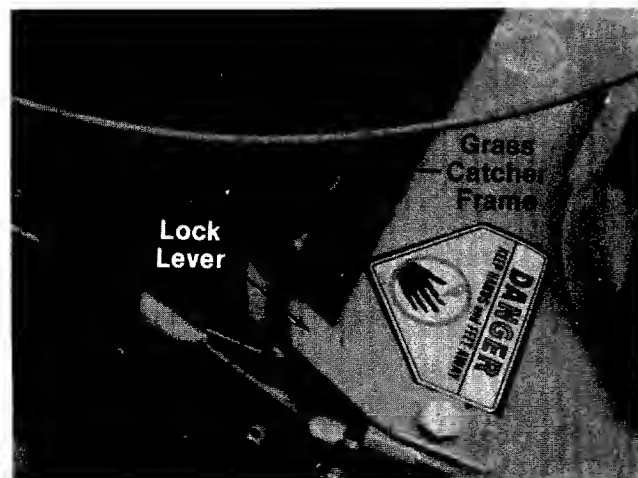

FIGURE 18.
- The grass catcher frame will snap into place, secured by the lock lever. See figure 18.
To remove the grass catcher, unhook the lock lever and slip the grass catcher off the unit. See figure 18.